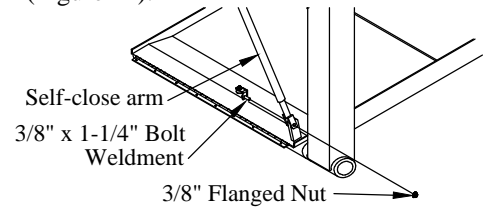

Figure 24: Self-close arm parts.
7. **Remove** the 3/8" x 1-1/4" bolt weldment that holds the self-closing arm to the platform (Figure 24).